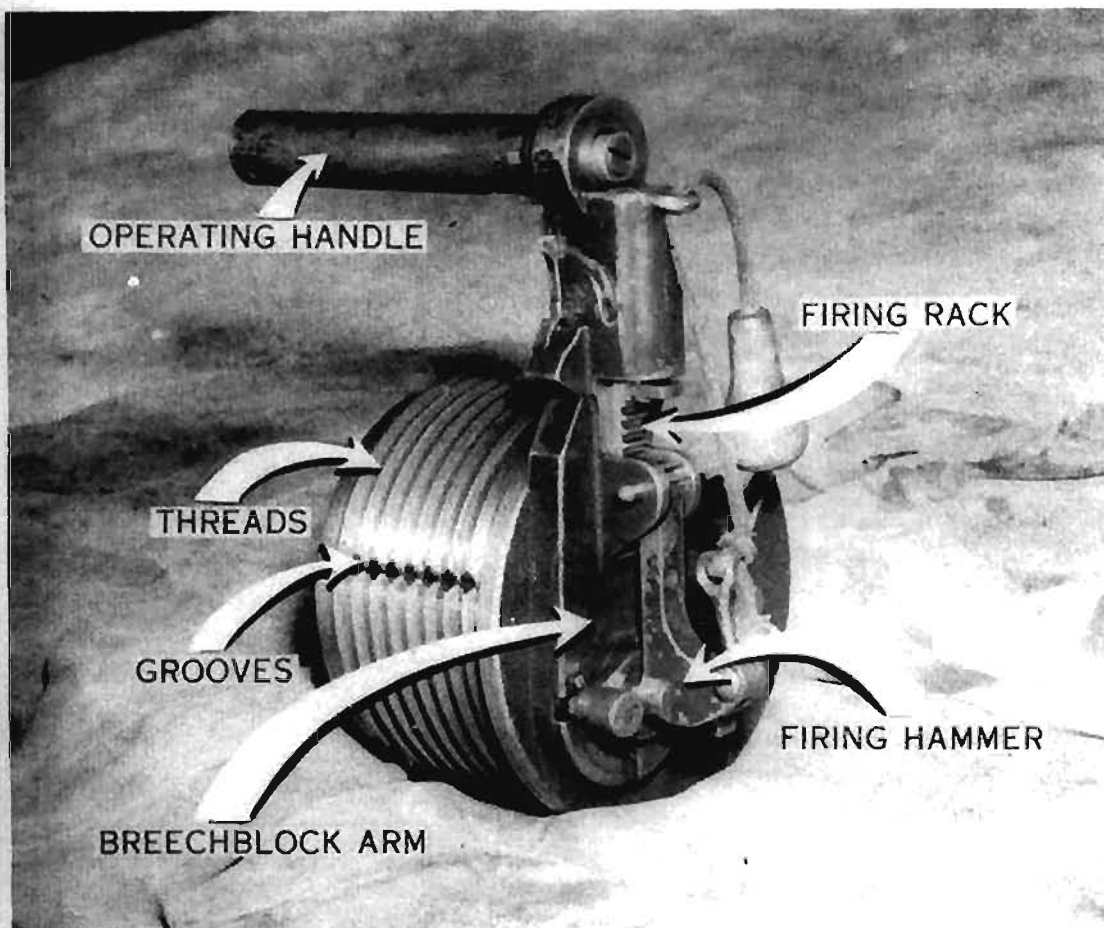

Figure 4
- 3. Breechblock arm is permanently assembled to rear face of breechblock (fig. 4).